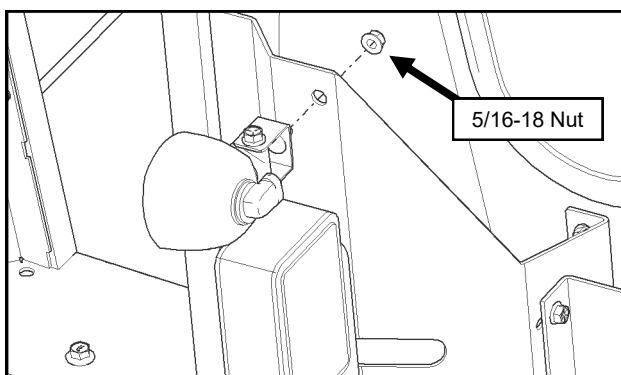

Fig. 17.4 (Assemble OEM Fender Lights to Cab)
- 17.4** Mount one light onto the left ROPS bracket and position it as desired. Tighten hardware. See fig. 17.4.